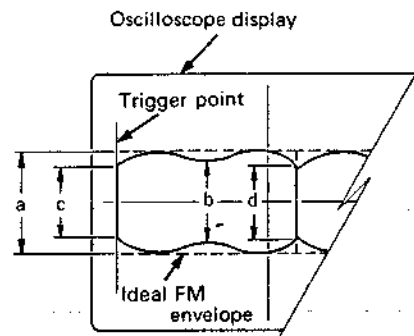

Fig. 1-6-1 FM envelope
1. Turn the TRACKING knob to obtain the maximum FM envelope output corresponding to (a) level in Fig. 1-6-1. Observe the FM envelope, read the maximum level (a) and the minimum levels (b), (c) and (d). Confirm that: